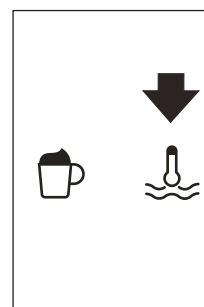

Fig. 27
- ▶ Press the ☕ icon (B13) (Fig. 27).